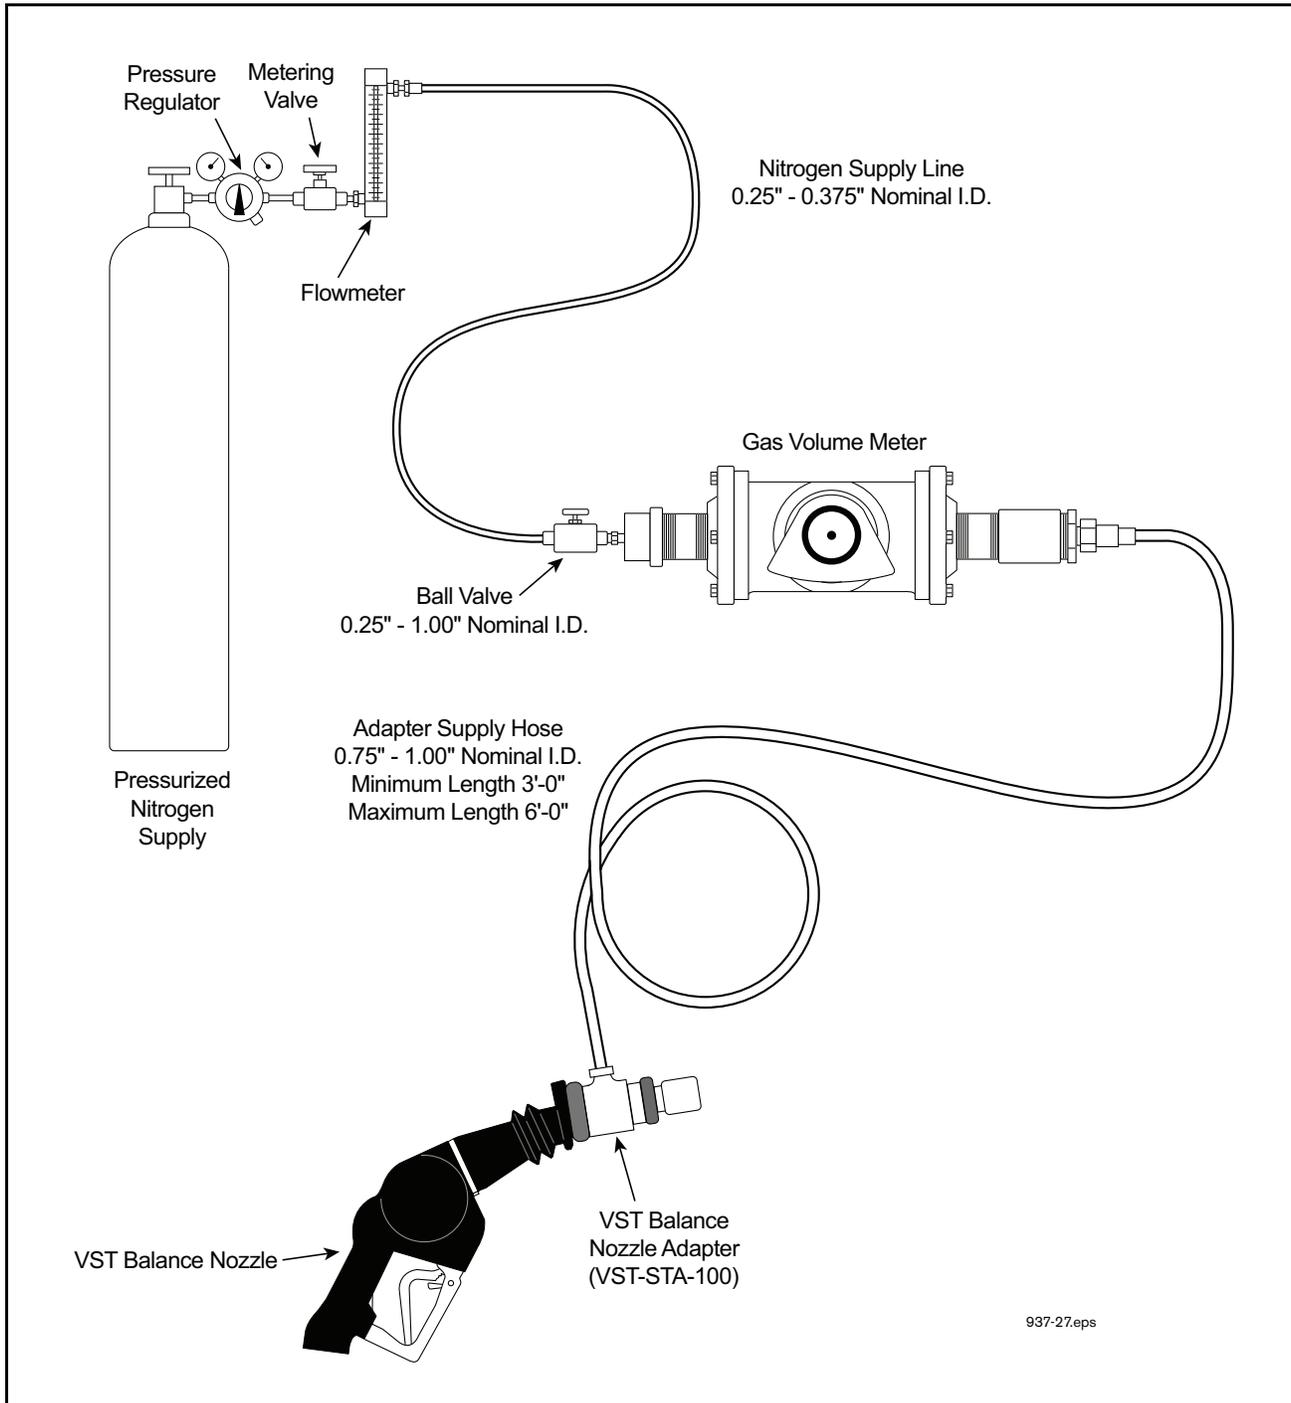

Figure 27. Vapor Flow Meter Test Assembly
4. Assemble the equipment as shown in Figure 27, Vapor Flow Meter Test Assembly. Leave the Balanced Nozzle Adaptor off of the nozzle at this time. Do not enable the dispenser to dispense product. Remove nozzle and utilize any method to keep the nozzle hook in the off position.